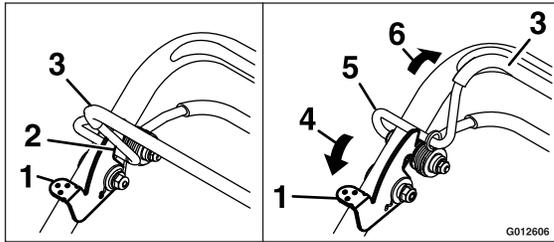

Figure 10
2. Push and hold the blade control lock lever forward to release the blade control bail (Figure 10).